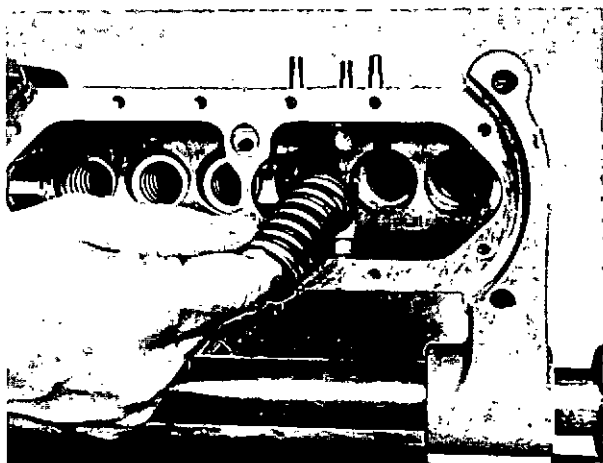

Fig. 34 Inserting upper plate and plunger spring.
12. Insert the upper spring plates and plunger springs (fig. 34).